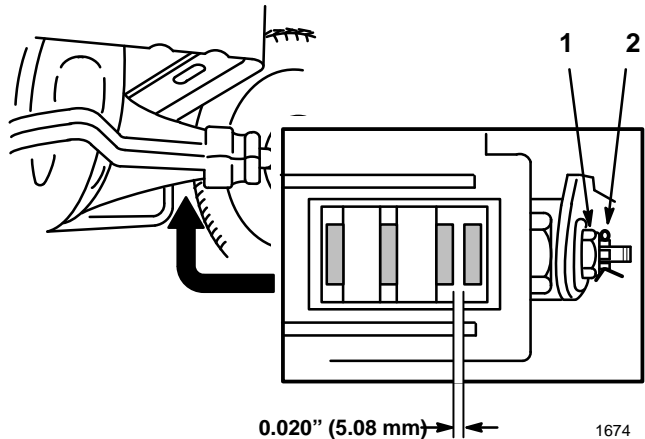

Figure 24
The brake is on the right side of the rear axle, inside the rear tire (Fig. 24). If the parking brake does not hold securely, an adjustment is required.
3. To adjust the brake remove the cotter pin and loosen the brake adjusting nut slightly (Fig. 24).
4. Carefully insert a 0.020” (5.08 mm) feeler gauge between the two outer brake pads (Fig. 24).